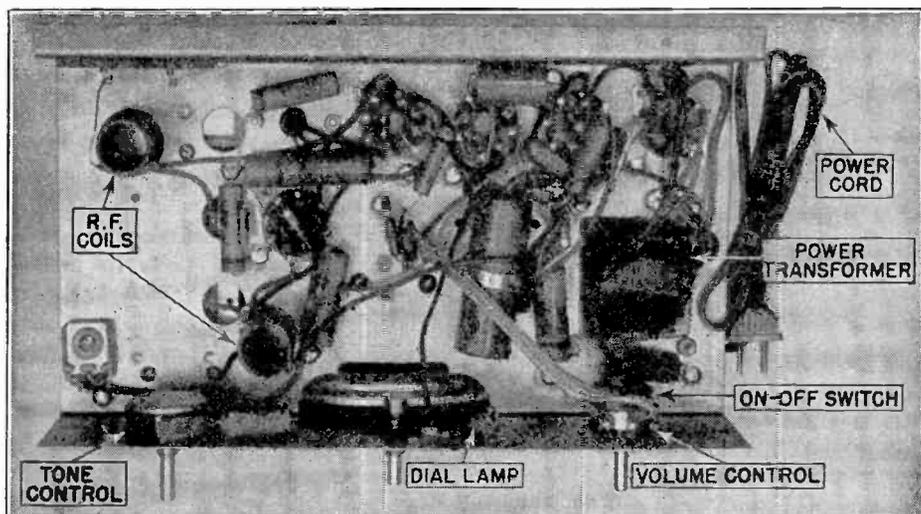

FIG. 23. Additional under-chassis parts of our superhet receiver are identified in this view.
As you can see in Fig. 23, there are still quite a few parts underneath the chassis of our receiver which have not yet been taken up. Most of these are highly important parts which often require attention by a radio serviceman, so a brief study of each will be well worth while.
**Power Cord.** One trouble which occasionally baffles even the most expert radio man because of its very simplicity and obviousness is a *defective power cord*. This cord shows clearly in Fig. 23, and serves to connect the receiver to an a.c. power line. The cord has a standard wall outlet plug at one end, and the two leads at the other end connect to two points underneath the chassis of the receiver.